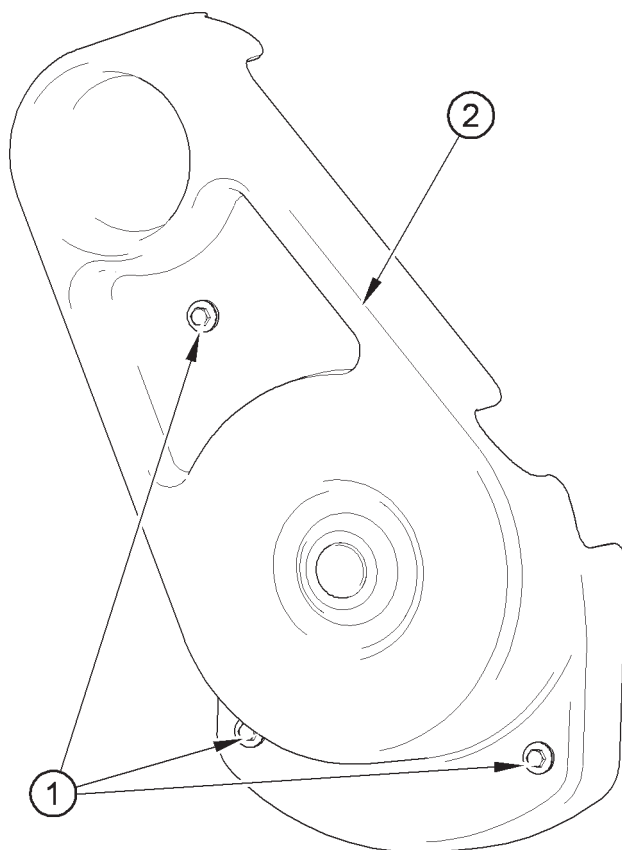

figure 9
1. Undo the bolts (figure 9 item 1) and remove the guard (figure 9 item 2). After inspection of the belt or adjustment of the belt, refit the guard.